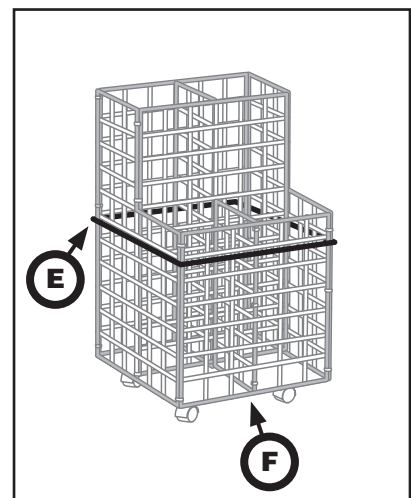

Figure 6
- 9** Attach outer support frame (**E**) and extra clips where needed as in *Figure 6*. (Be sure to position support bar below the top of the face grid as shown for greater stability.)